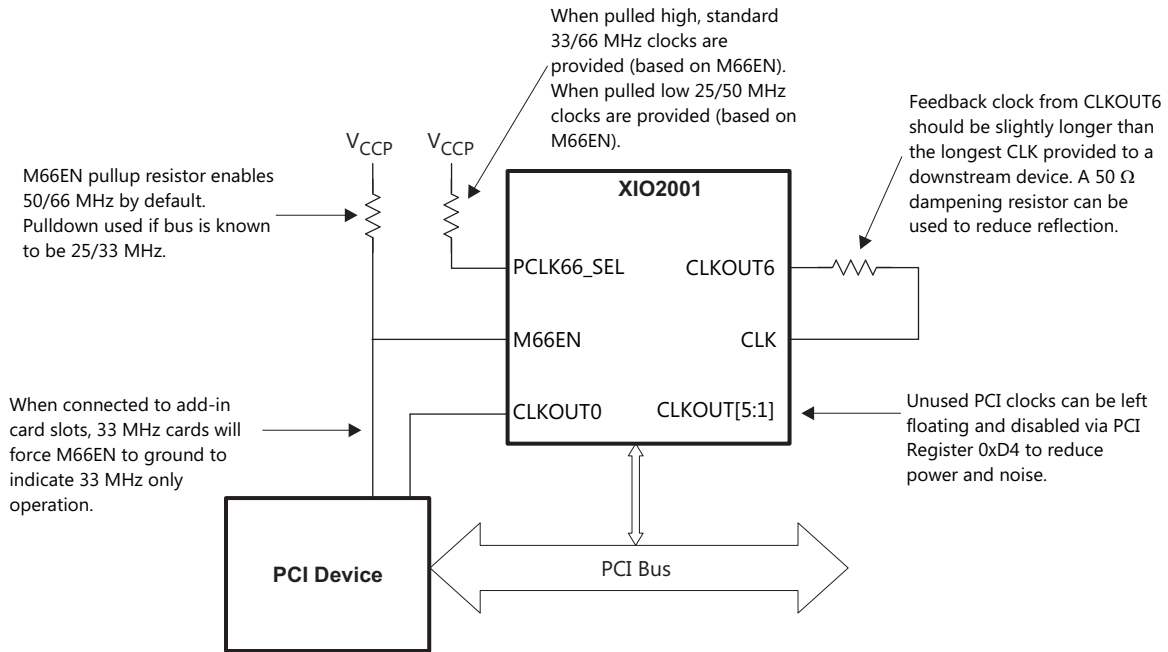

Figure 25. External PCI Bus Clock Configuration
- An external clock feedback feature is provided to de-skew PCI bus clocks. Connecting the CLKOUT[6] terminal to the CLK terminal is required if any of the other six CLKOUT[5:0] terminals are used to clock PCI bus devices. The CLKOUT signals should be slightly longer than the longest synchronous PCI bus signal trace. Figure 25 illustrates the external PCI bus clock feedback feature. The use of series resistors on the seven PCI bus clocks should be considered to reduce circuit board EMI.